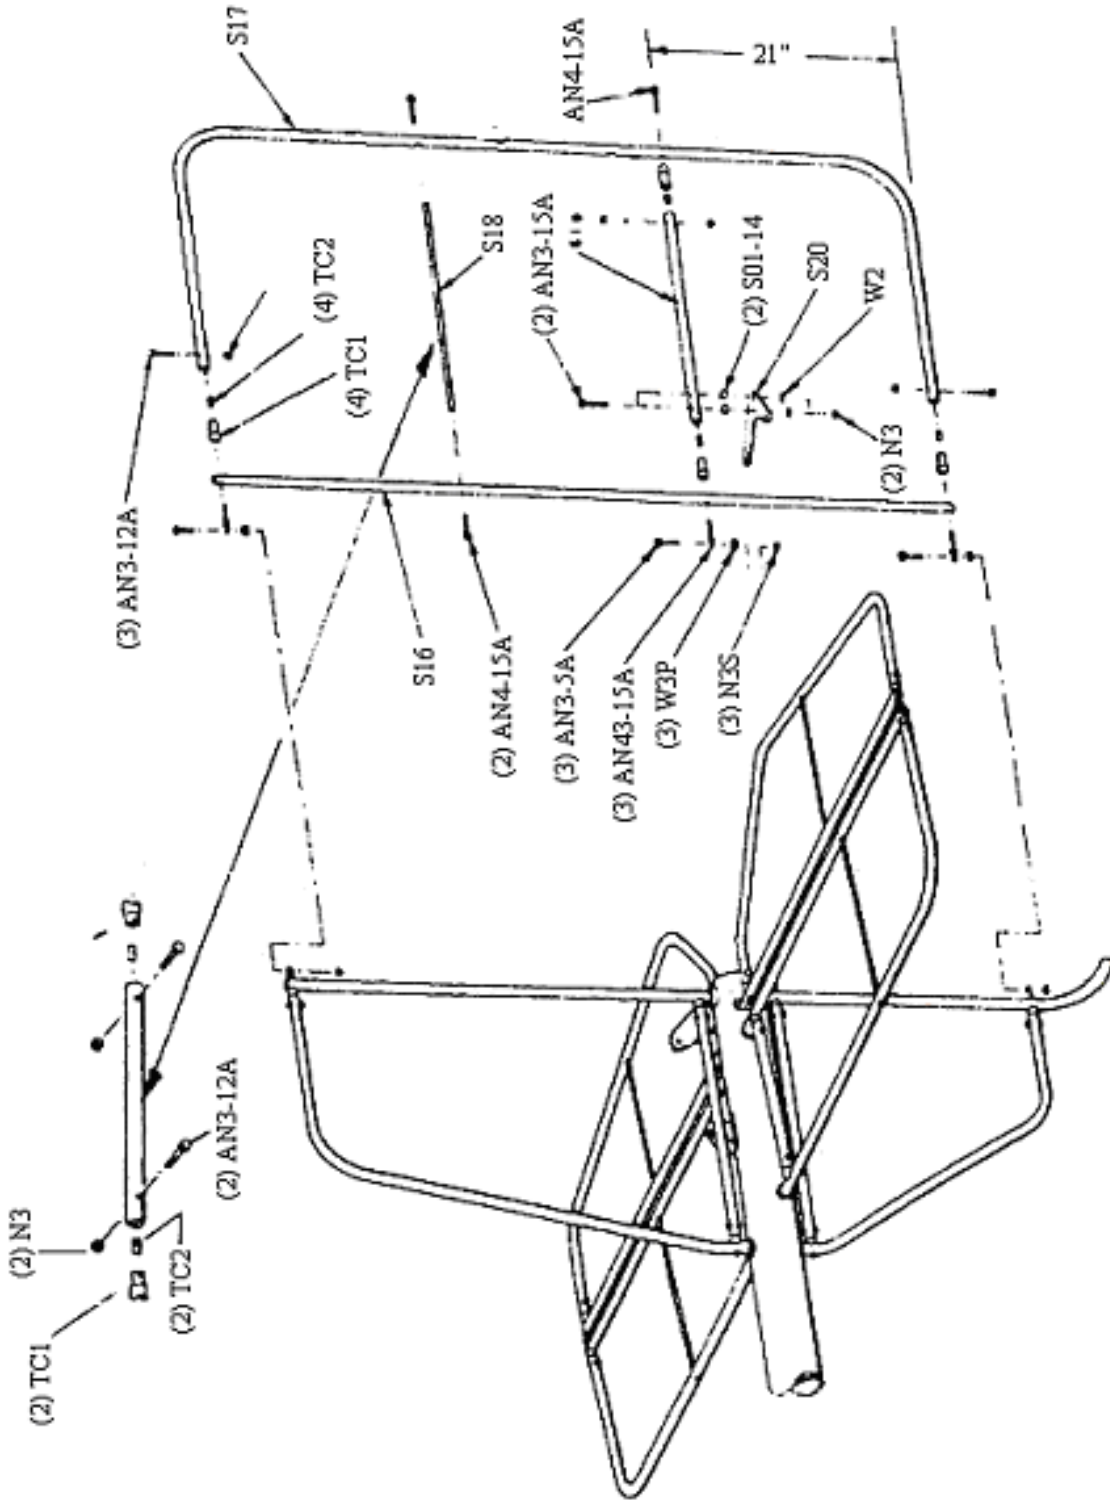

Figure 72 – Rudder
Trim away gap seal as shown but be careful not to cut into inner most straight stitching. Stay about 1/16” away. Be careful! Trim gap seal at upper leading edge mounting bolt as shown in circled drawing. Melt holes in trailing edge. Install spreader S19 as with method shown in Figure 72. Secure with AN43-15A eyebolt and AN4-15A bolt. Install belcrank S20 through access hole as shown with (2) AN3-15A bolts, (2) S01-14 saddles, (2) W3 and (2) N3. Install upper spreader S18. Secure with (2) AN4-15A bolts. Position rudder onto assembled vertical stabilizer and install (3) AN3-5A hinge bolts, (3) W3P washers and (3) N3S. Tighten but allow to pivot freely.